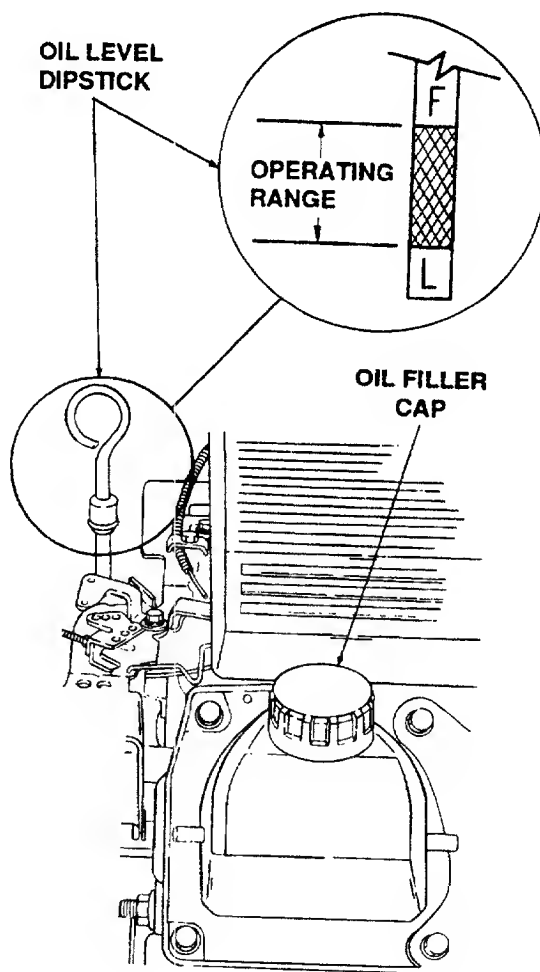

Figure 18
level. Close monitoring of the oil level during the first 10 hours of operation of the engine is especially important. Before checking the oil level, clean the area around the oil level dipstick to prevent debris from entering the crankcase. Always keep the oil level between the "FULL" and the "LOW" marks on the dipstick. (See Figure 18.) When checking the oil level, engine must be cold, the dipstick must be withdrawn and wiped clean, then inserted all the way and withdrawn for a true reading.
3. Remove the oil filler cap from left valve cover and **SLOWLY** pour in oil. Fill the crankcase until the oil level reaches the "FULL" mark on the dipstick. (Refer to Figure 18.)
3. Remove the oil filler cap from left valve cover and **SLOWLY** pour in oil. The oil capacity is approximately 4 pints. Fill the crankcase until the oil level reaches the "FULL" mark on the dipstick. (Refer to Figure 18.)